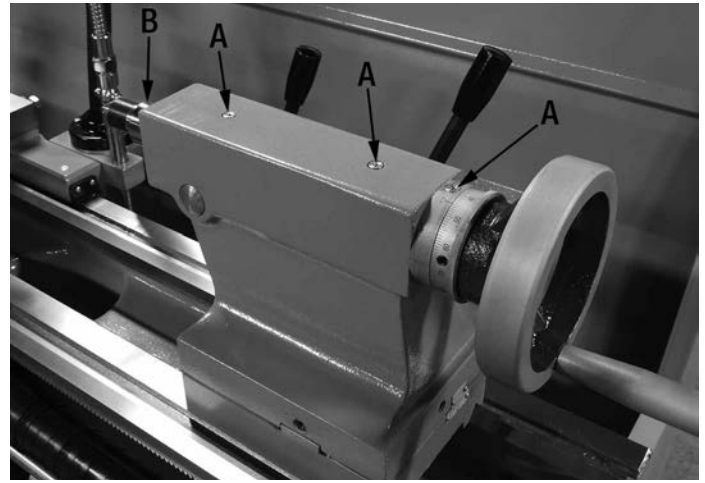

FIGURE 22
Lubricate the tailstock ball oilers (A) Fig.22 with regular machine oil. Oil the tailstock quill (B) weekly with regular machine oil. It is recommended to remove the tailstock monthly to wipe down the bed ways and relubricate.